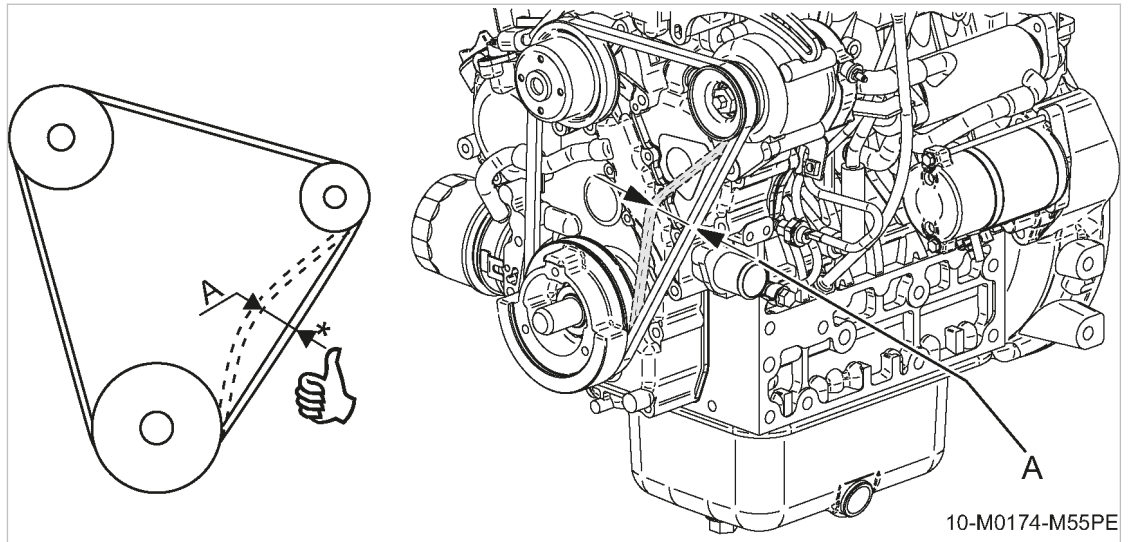

Fig. 46 Manually checking the belt tension
- (A) Drive belt testing position
1. Check belt tension by hand (see Fig. 46).
6. Check the belt tension (see Fig. 46).